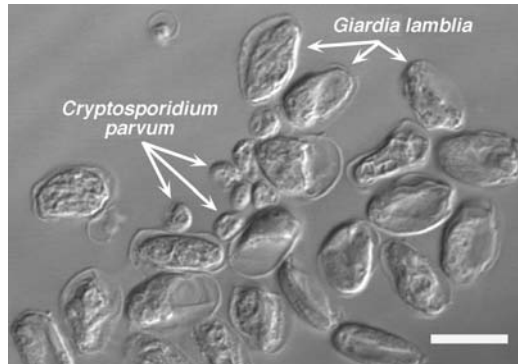

Figure 10.1
- Two protozoa causing serious intestinal illness are *Giardia lamblia* and *Cryptosporidium parvum* (Figure 10.1).8